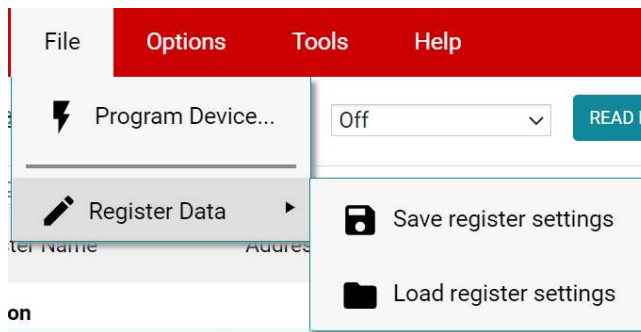

Figure 4-12. Save and Load Register Settings
- For convenience, register settings can be saved and loaded back later to any device with the same register map. To do this, go to *File > Register Data*, as shown in Figure 4-12.